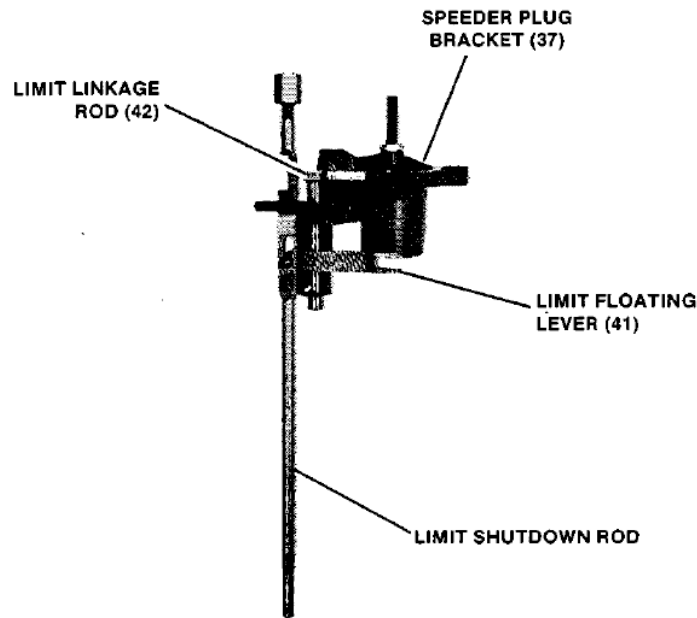

Figure 5-14. Speeder Plug Bracket Assembly
6. Install drive coupling (108) and the ballhead assembly in the governor.
7. Use oil seal tool 8g95-060 to install oil seals (24) in case (26).
8. Place terminal lever in case and install output shafts (25) in terminal lever (15). Secure output shafts with two screws (1).
9. Press down on speeder spring plug (123) and position floating lever (125) under droop slider
10. Refer to Figure 5-14 and assemble speeder plug bracket (37). Place limit linkage rod (42) and limit/shutdown rod (40) in bracket (37). Install limit floating lever (41) as shown. Install the bracket assembly in the case and secure it with three screws (1). Be sure the fork of floating lever (41) is engaged on the headed pin in terminal lever (15).